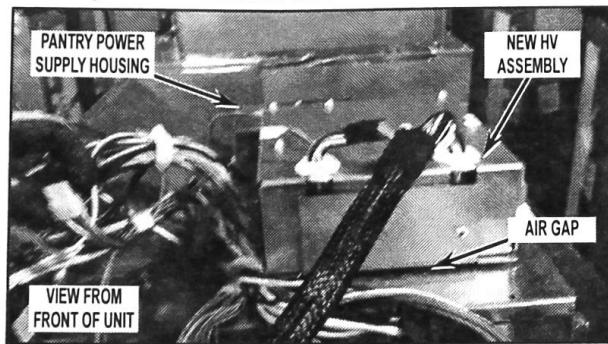

FIGURE 10
12. Place the new HV assembly next to the pantry power supply housing. The new HV assembly will NOT be screwed down. See Figure 10.